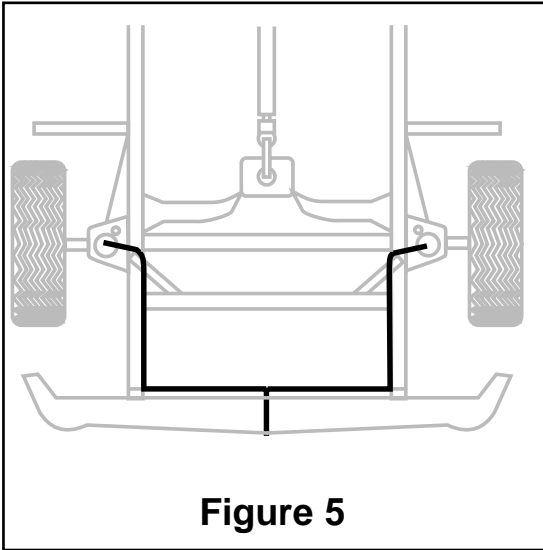

Figure 5
J. Push the remaining air line over the last fitting on tee and route along frame to desired inflation valve location (Figure 5). Attach with plastic straps or wire.